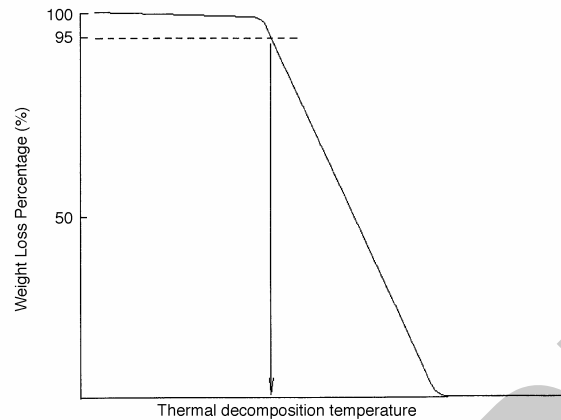

Figure 1
7.1 In Figure 1, the thermal decomposition is determined by the temperature at 5% of the weight loss.